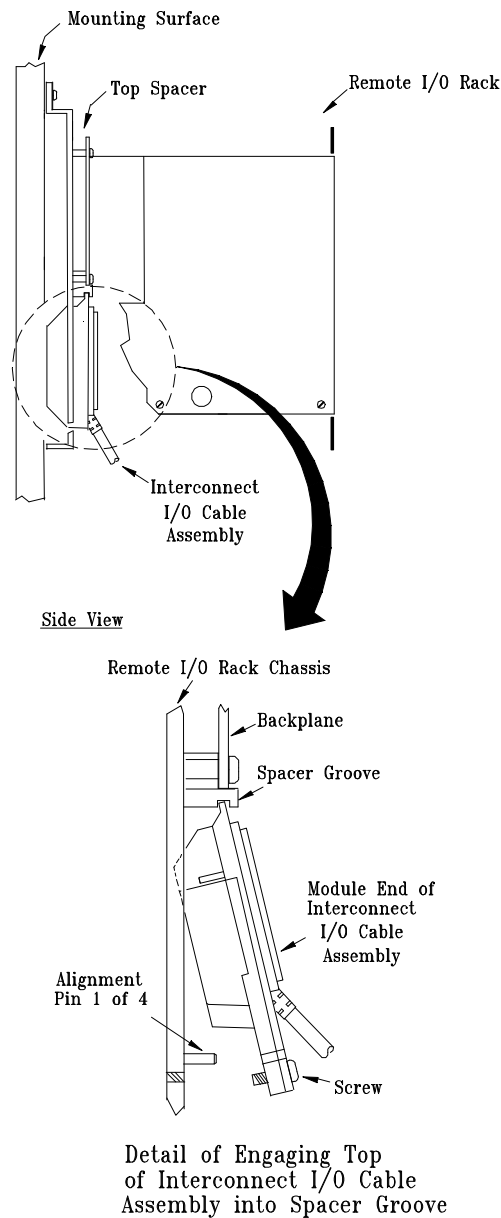

Figure 2-30 Installing Module End of I/O Interconnect Cable
Each I/O module to be installed in the Remote I/O Rack is to connect to its I/O field wiring via an Interconnect I/O Cable Assembly. Each cable extends from a module slot position in the Remote I/O Rack to a companion marshalled termination assembly that provides I/O field terminals. The Remote I/O Rack can accommodate up to four cable assemblies. Installation of these cable assemblies, as shown in Figure 2-30, is commonly performed at the time of rack installation (prior to module installation).
2. As shown in Figure 2-30, tilt the I/O cable's top connector edge into the rack's spacer groove and then pivot the connector down so it engages the alignment pin on the rack's chassis and protrudes through the connector cutout in the rack's chassis.